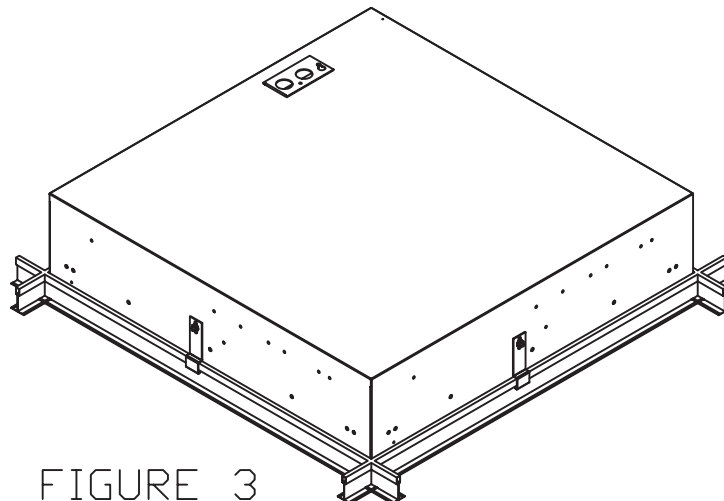

FIGURE 3
4. CONTINUE WITH STEPS 1-3 FOR EACH SIDE OF HOUSING (FIGURE 3)